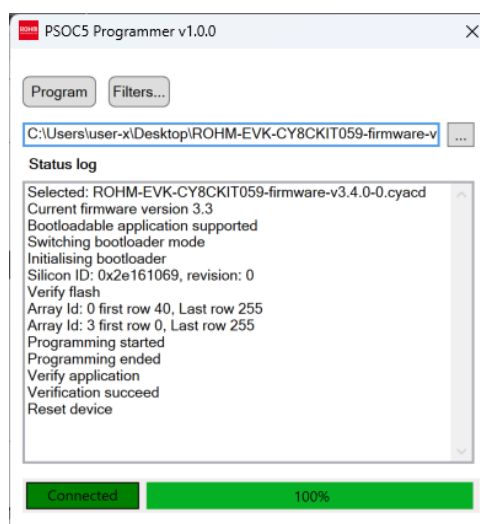

Figure 99: PSOC5 Programmer status log.
5. Check that the 'Verification succeeded' message can be found in the PSOC5 Programmer status log as shown in Figure 99 and the update is complete.